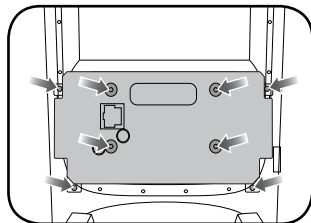

Fig. 1.4
- Remove the 3 knobs on the front of the bezel by pulling them towards you, some force will be required. Take care not to lose the small rubber pads located behind the knobs. (Fig. 1.4)
- Remove the (8) torx screws securing the back panel of the climate controls. Remove the back panel. (Fig. 1.4)